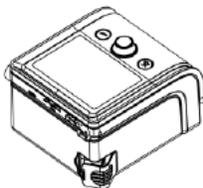

Fig. 11-2
- (2) Install the filter cap containing the air filter to the main device, as shown in Fig.11-2.